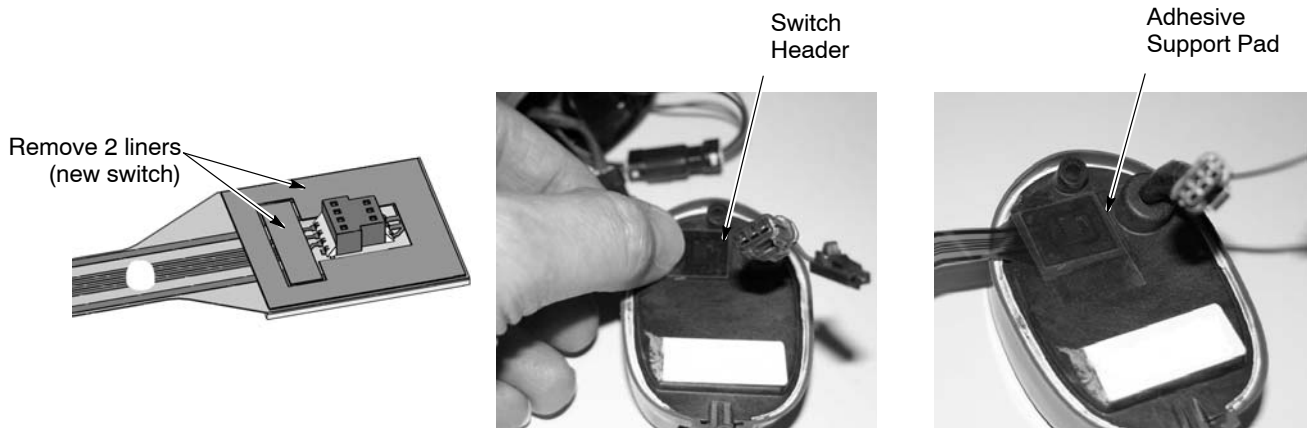

Figure 7 Connecting the Trigger Switch to the Display Module
14. Install the new nylon screw (7) included in the upgrade kit through the handle and gun body and tighten it securely.
16. See Figure 7. Remove the liners from the connector side of the trigger switch header, then plug the trigger switch header into the display module.